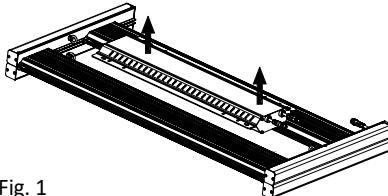

Fig. 1
a. Take out the lighting fixture (Part A) and driver (Part B) out of box separately with care, as Fig. 1.